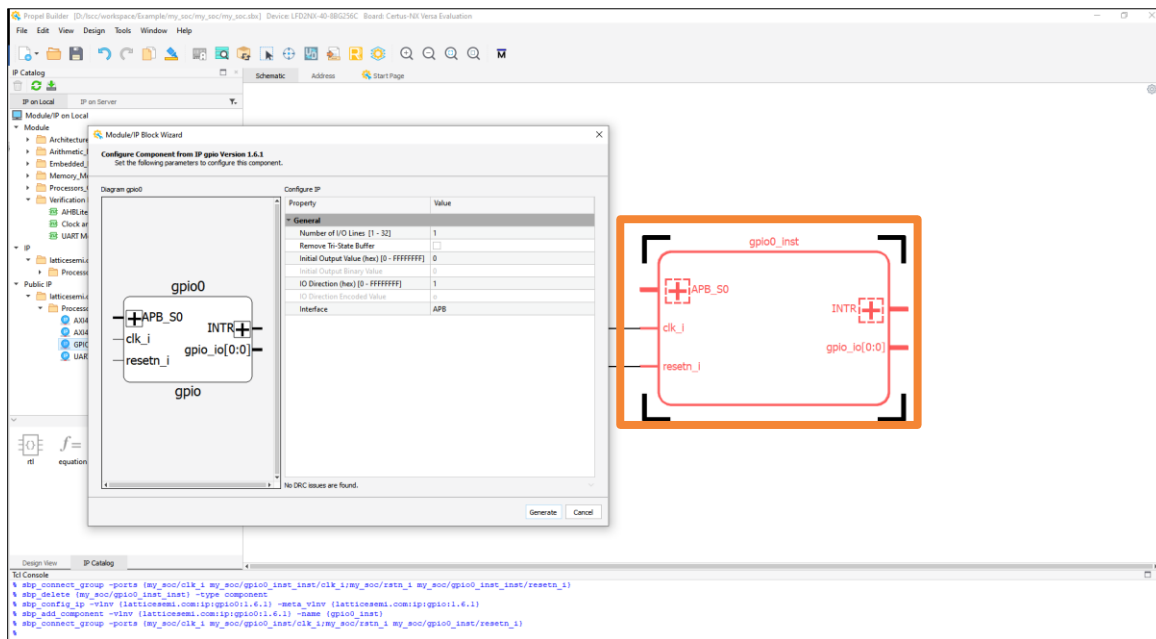

Figure 2.50. Regenerate Module/IP
10. (Optional) To re-generate this IP, double click on the instance. A Module/IP Block wizard pops up (Figure 2.50).